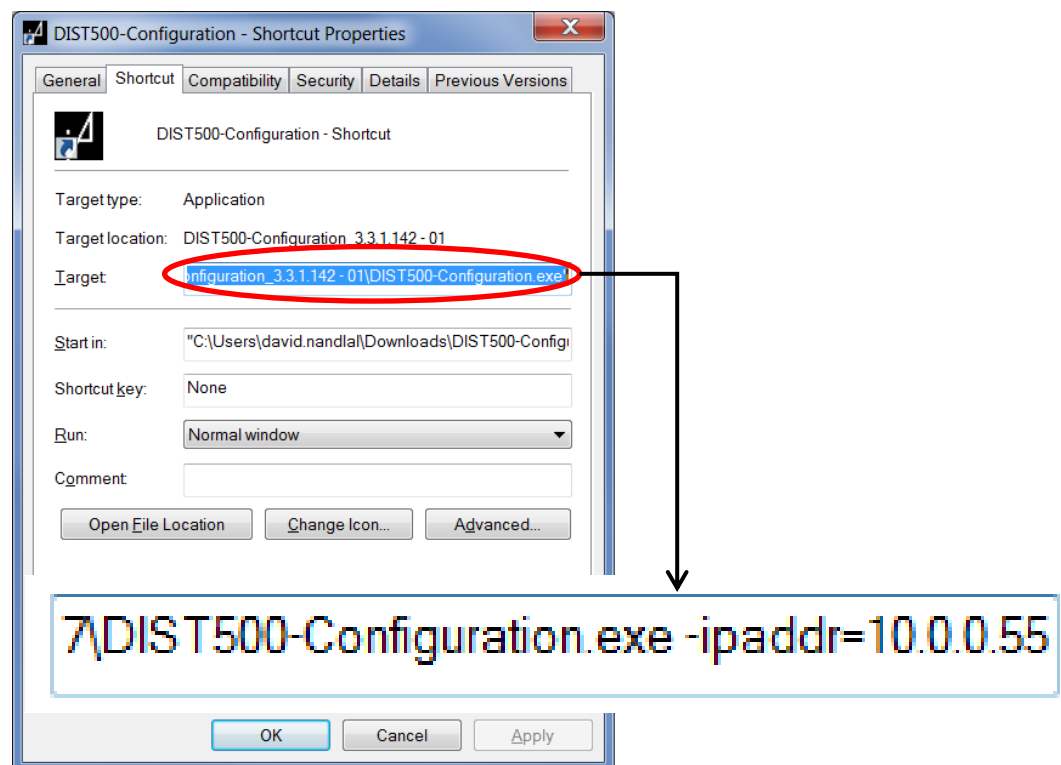

Figure 6: Entry in the "Properties" window of a service software tool
2. Click into the input window "Target", see Figure 6.